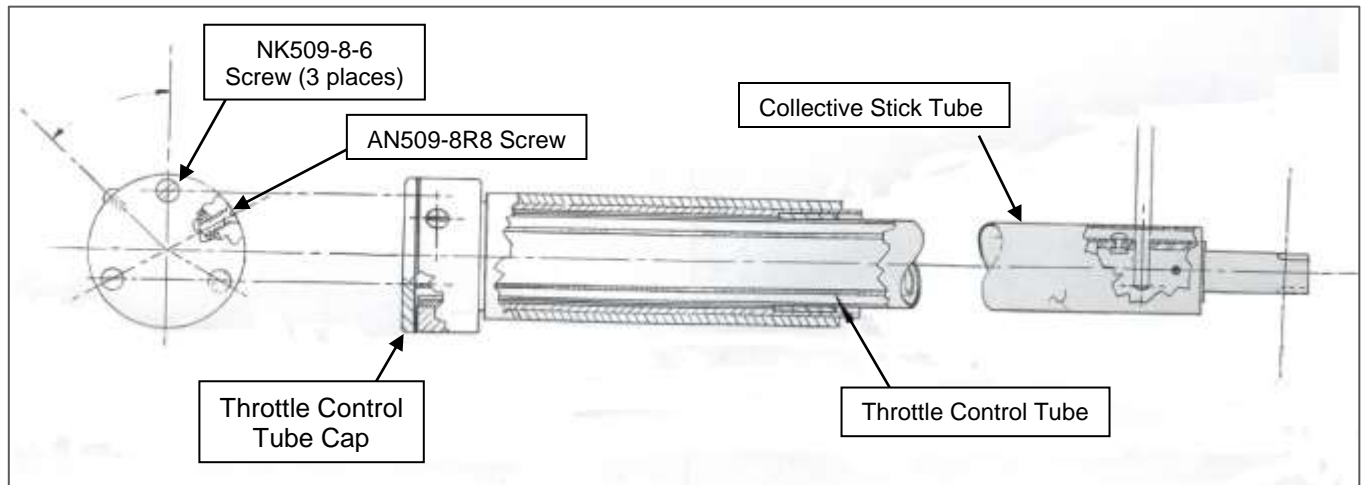

Figure 3. Collective Stick Assembly (all other models)
## 6.4.2 Disassembly (all other models) (Figure 3):
- 6.8.2 Reassembly (all other models) (Figure 3):